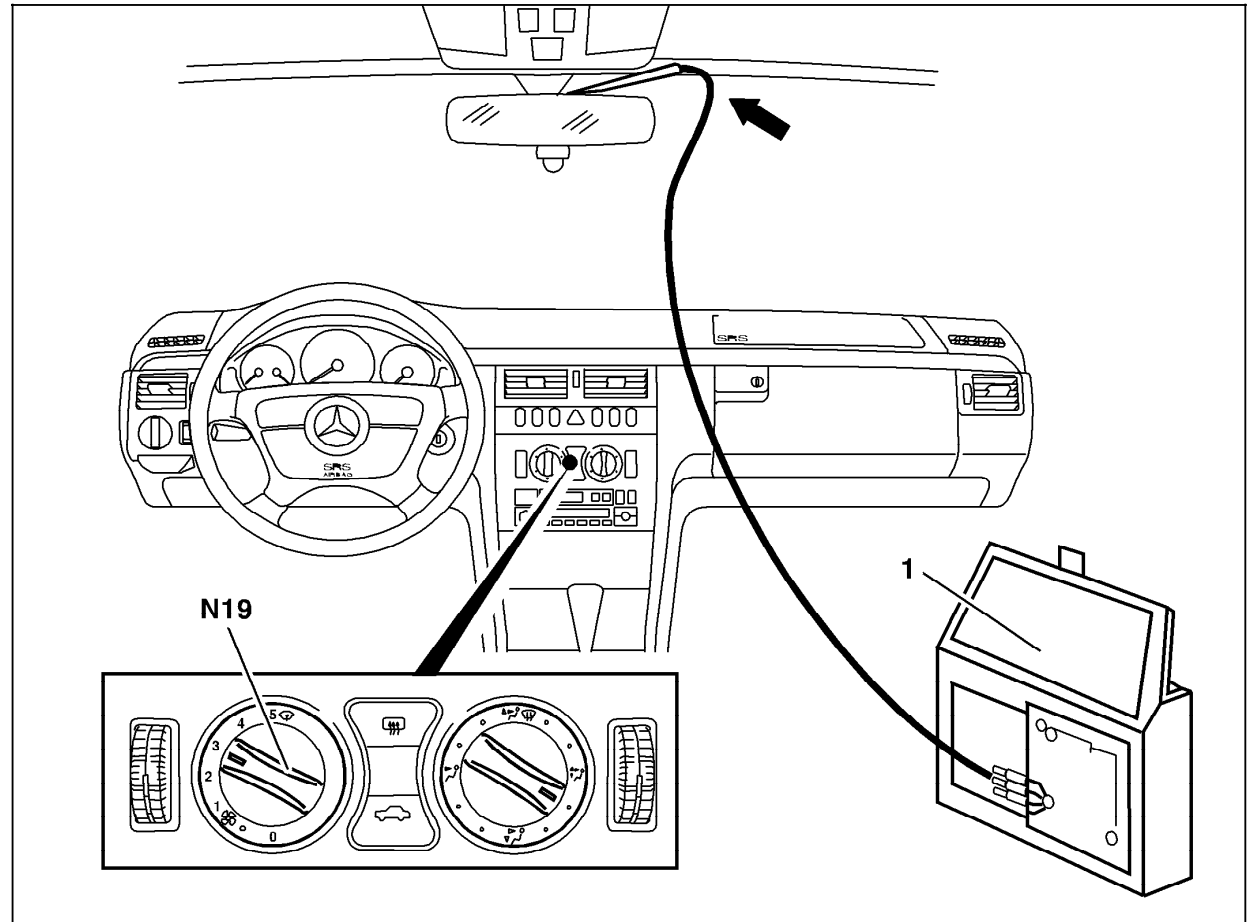
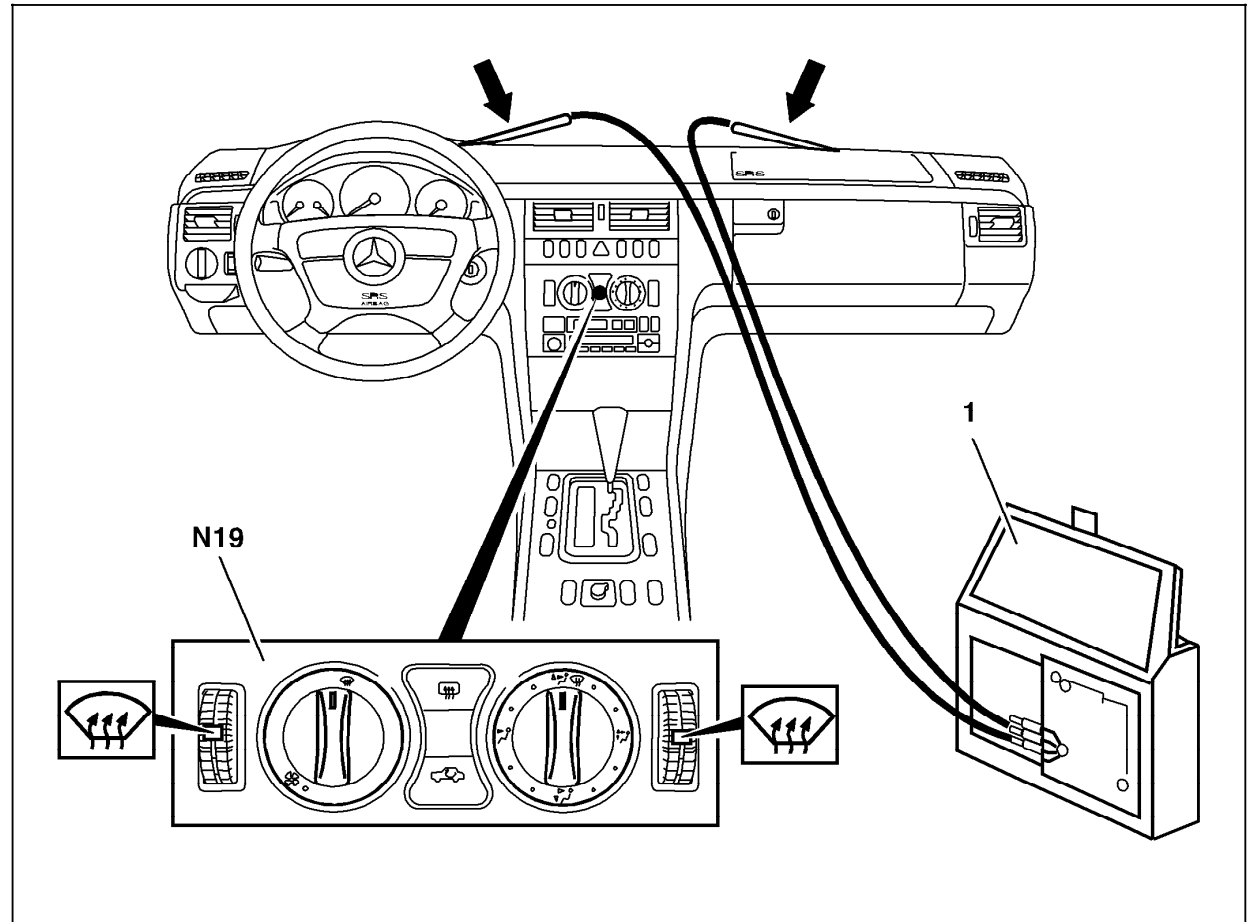

Figure 1
Figure 2
2. Install temperature probes, see Figure 1 for Quality Control and Figure 2 for Heater Output.
6. Attach temperature probe to right sun visor (arrow, Figure 1) and connect to multimeter, thereafter turn on multimeter.